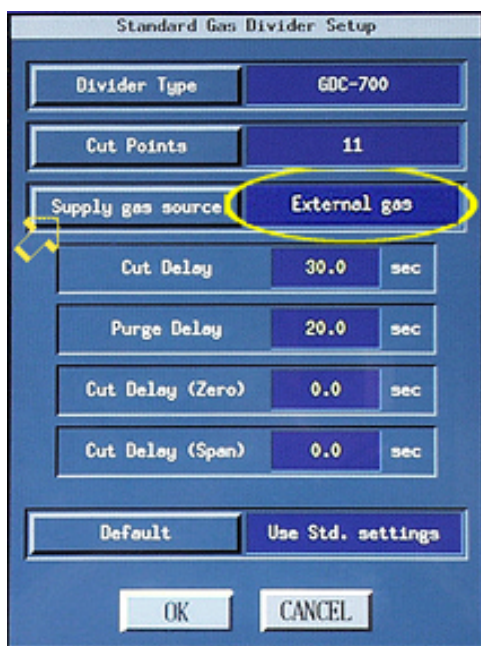

Figure 10
- 117 On the "Standard Gas Divider Setup" panel, verify that the field adjacent to the "Supply gas source" button is set to "External gas to GDC." If not, click on "Supply gas source." See the arrow in Figure 10. Select "External gas" from the menu. See the circle in Figure 10.